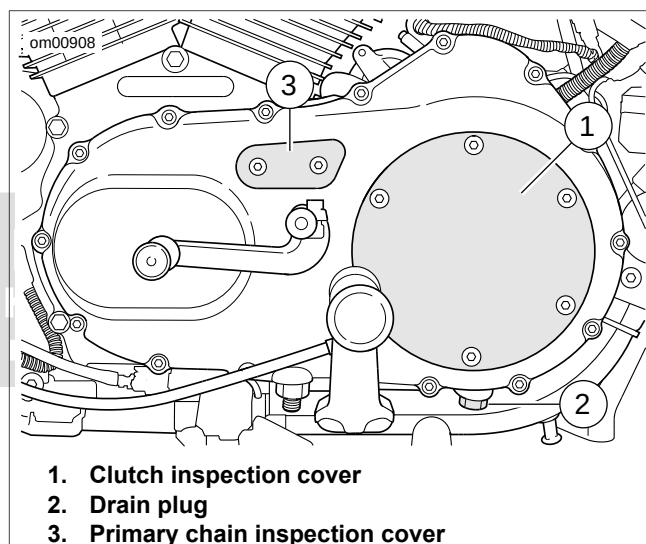

Figure 1-21. Primary Cover: XL Model
5. See Figure 1-21. Remove screws with washers and remove clutch inspection cover (1).
4. See Figure 1-21. Position a suitable container under transmission drain plug (2).